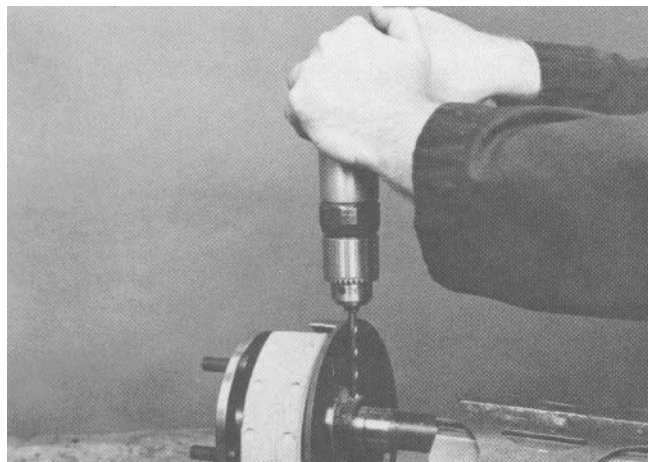

Figure 11
9. Center punch and drill a 1/4 inch (6 mm) hole (approximate) into the outside of the bearing retainer to a depth of about 3/4 the thickness of the retainer (Fig. 11).